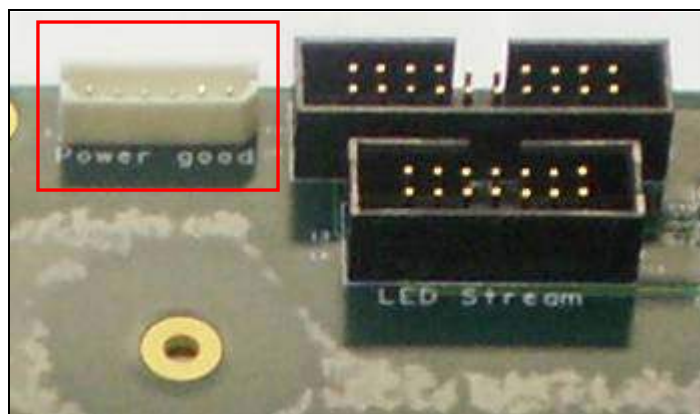

Figure 15: External Power Supplies
**11. External Power Supplies** (see Figure 15)